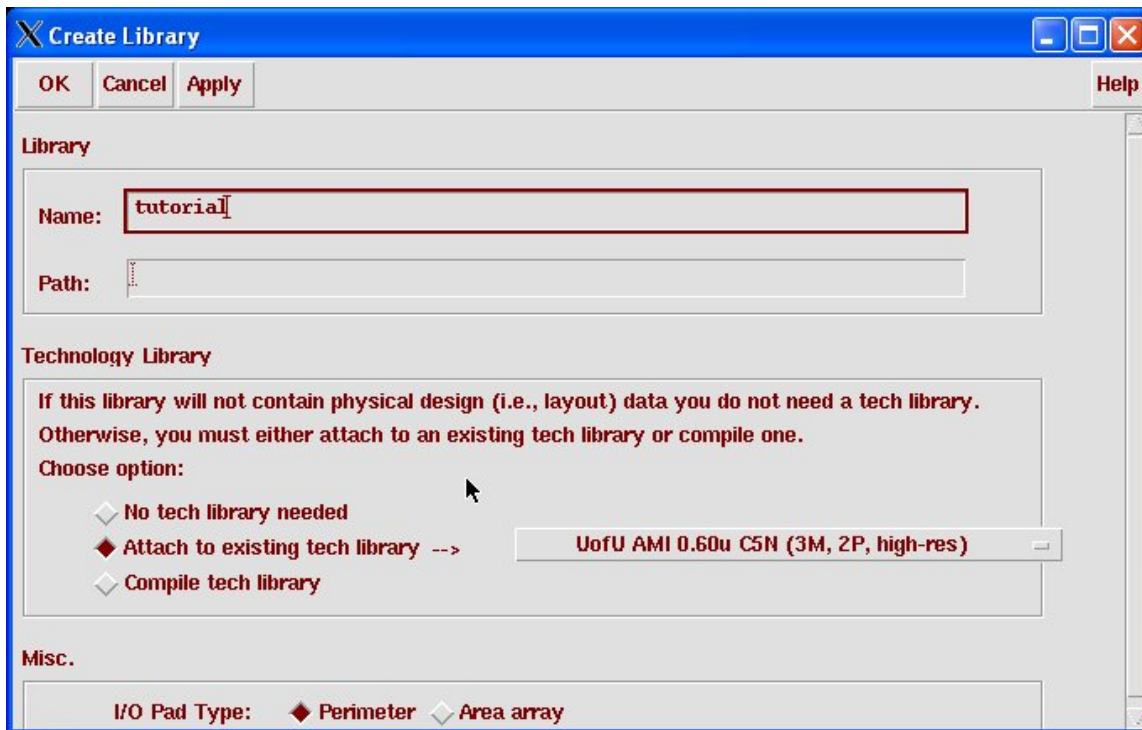

Figure 3.1: Library creation dialog box in Library Manager
3. In order to build your own schematics, you'll need to define your own library for your own circuits. To create a new working library in the library manager, select **File** → **New** → **Library**. In the **Create Library** window that appears fill in the Name field as `tutorial`, or whatever you'd like to call your library. Leave the **Path** field blank so that it creates the new library under the directory in which you started Cadence. If you want to create a library somewhere other than in your `~/IC.CAD/cadence` directory you can put the whole path in the path field. In the **Technology Library** box select **Attach to an existing tech library** and choose the **UofU AMI 0.60u C5N** technology library. The dialog box is shown in Figure 3.1 Now press OK and the new library will show up in your Library Manager window.